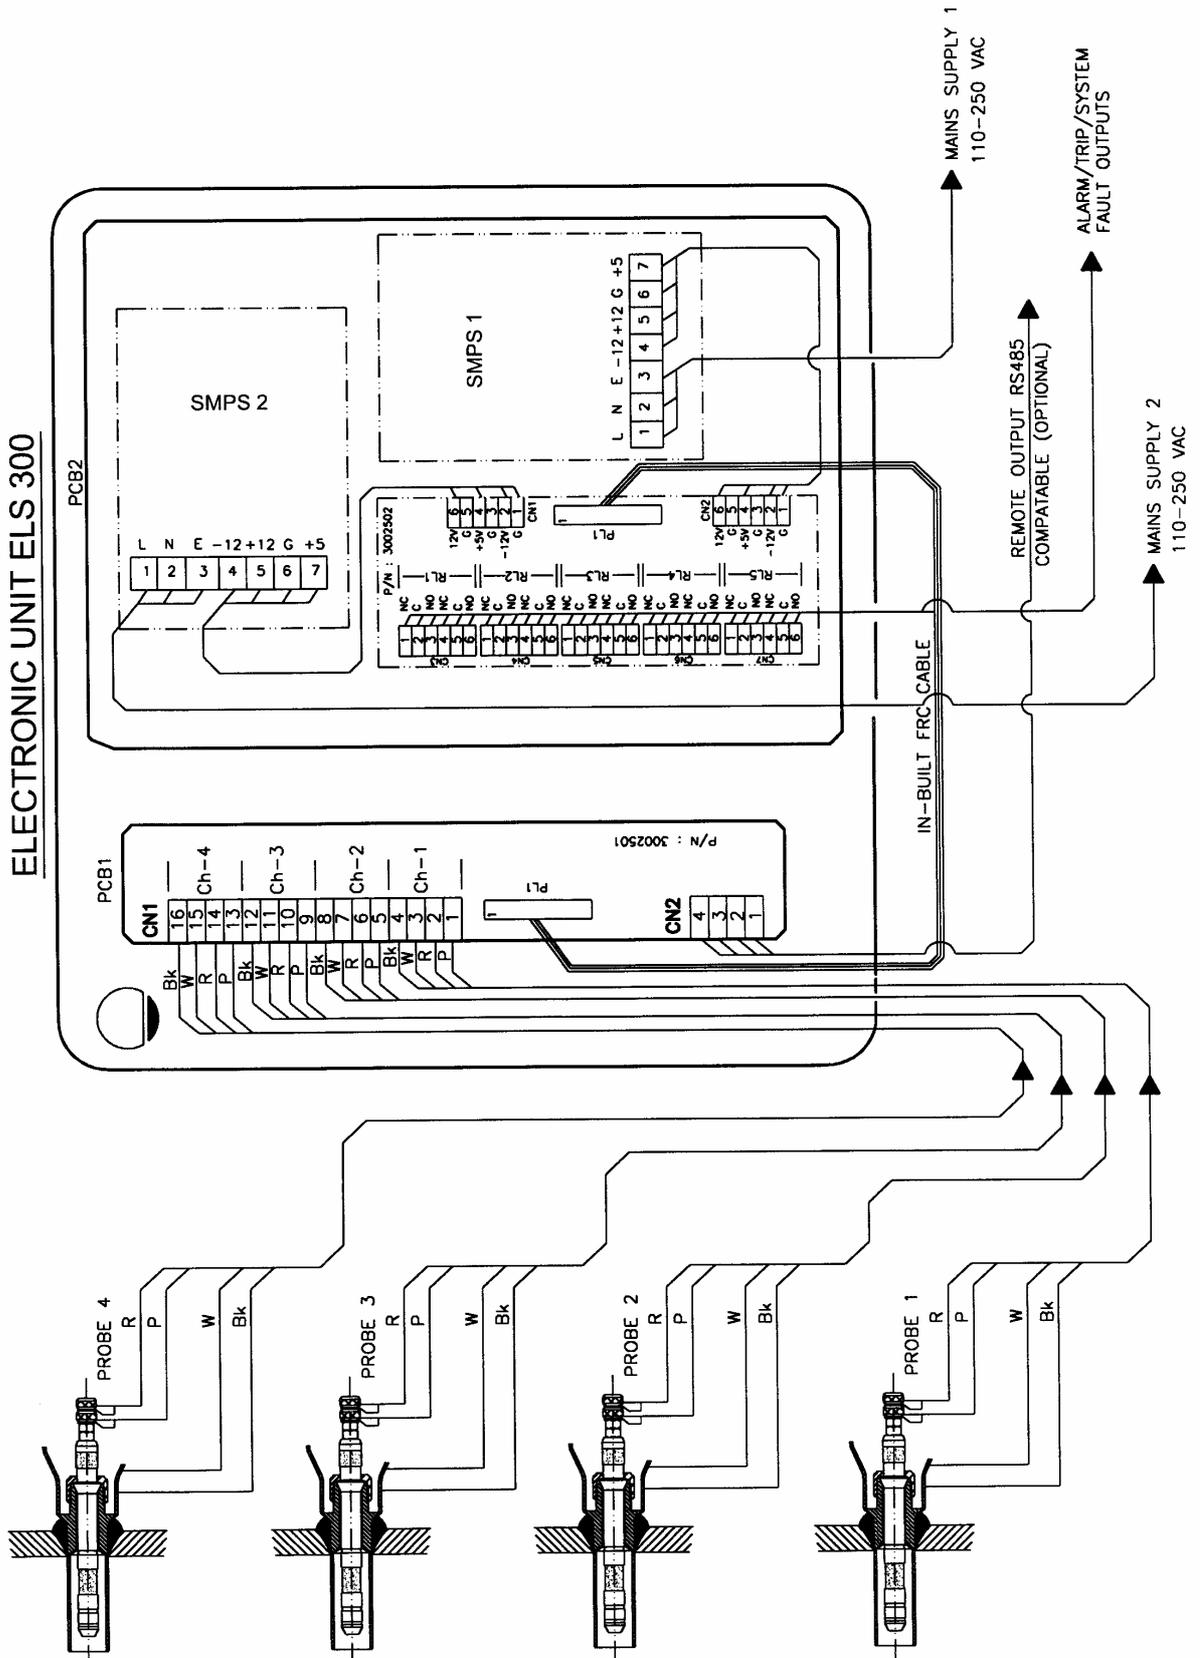

Fig. 5.1 System Cabling
Fig. 5.1 shows the probe cable fitting in the probe and ELS 300 Electronic Unit. A 10 mtr. length of special 4 core high temperature PTFE cable is provided for each probe to ELS 300 connection. Crimped nickel ring terminations and cable bush are pre-formed for probe assembly fitting.
- (iv) Connect wires to probe terminals (Refer System Cabling Fig. 5.1 as required), tighten knurled nuts using finger pressure only. Refit guards for probe protection.
Connect wires to probe terminals (Refer System Cabling Fig. 5.1 as required), tighten knurled nuts using finger pressure only.